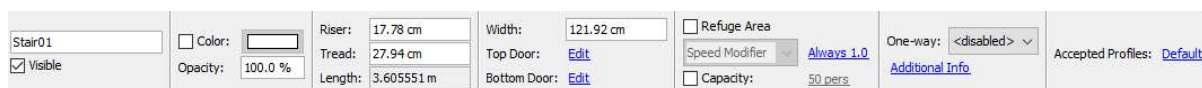

Figure 51. Stair property panel
Stairs have a number of properties that control their geometry and behavior of occupants that travel on them. When a stair is selected, these properties can be seen in the stair's property panel as shown in Figure 51.
2. Select the stair (or several) so its properties are visible in the property panel as shown in Figure 51.